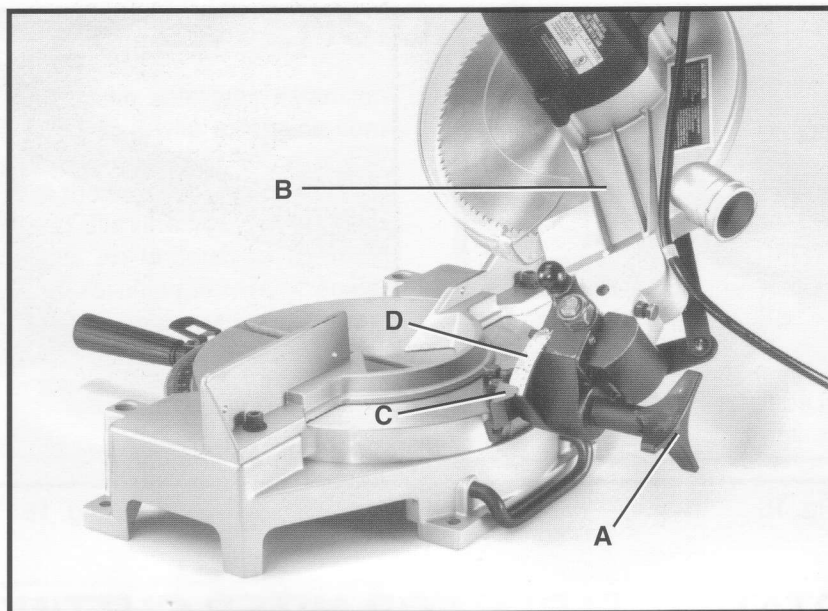

Fig. 18
The cuttinghead of your compound miter saw can be tilted to cut any bevel angle from a 90 degree straight cut off to a 45 degree left bevel angle by loosening bevel lock handle (A) Fig. 18, tilting cutting arm (B) to the desired angle and tightening lock handle (A).
Positive stops are provided to rapidly position the saw blade at 90 and 45 degrees to the table. Refer to the section of this manual titled “**ADJUSTING 90 AND 45 DEGREE BEVEL STOPS.**” The bevel angle of the cutting arm is determined by the position of the pointer (C) Fig. 18, on the scale (D).